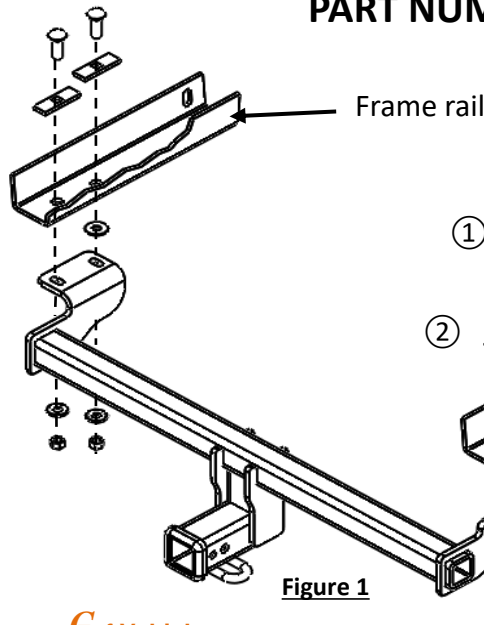

Figure 1
- Enlarge access hole** - Using a die grinder, enlarge the access holes big enough to fit 1/2" carriage bolt ①, both sides, see **Figure 1**.
- Install hitch** - Using tape, secure the flat washer ③ at front attachment holes on frame rails, see **Figure 1**. Using pull wires ⑥ feed carriage bolts ① and spacers ② into the vehicle frame rails through the access holes, see **Figure 1 & 5**. Leave pull wires attached. Raise the hitch and feed pull wire previously installed through hitch bracket slot. Remove pull wires and loosely install conical washer ④ and hex nut ⑤ to hitch, see Figure 1.
3. **Enlarge access hole** – Using a die grinder, enlarge the access holes big enough to fit 1/2" carriage bolt ①, both sides, see **Figure 1**.
5. Install hitch – Using tape, secure the flat washer ③ at front attachment holes on frame rails, see **Figure 1**. Using pull wires ⑥ feed carriage bolts ① and spacers ② into the vehicle frame rails through the access holes, see **Figure 1 & 5**. Leave pull wires attached. Raise the hitch and feed pull wire previously installed through hitch bracket slot. Remove pull wires and loosely install conical washer ④ and hex nut ⑤ to hitch, see Figure 1.